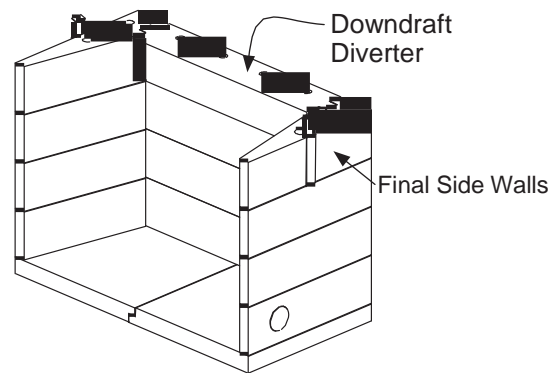

Figure 43 - Attaching Downdraft Diverter and Side walls
9) Install Downdraft Diverter and final row of Side Walls (Figure 43). All components must be level. Mix approximately 2 cu. ft. of Ready-Mix Concrete and fill all cells with Ready Mix Concrete mix.